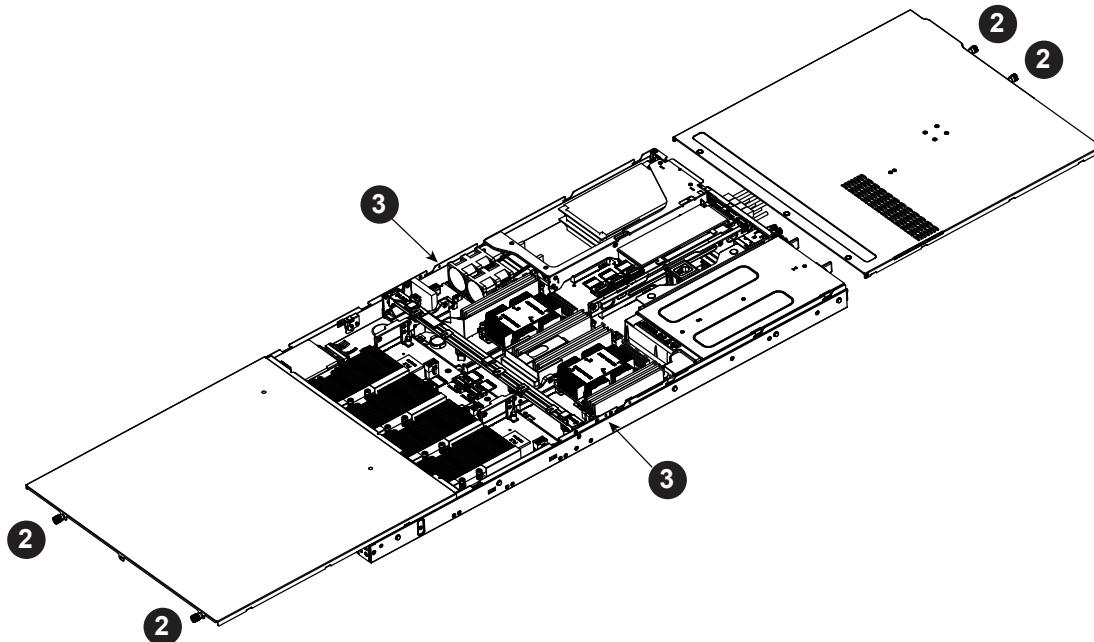

Figure 3-1. Removing the Chassis Cover
4. Pull the cover towards the end of the chassis and off. See Figure 3-1.